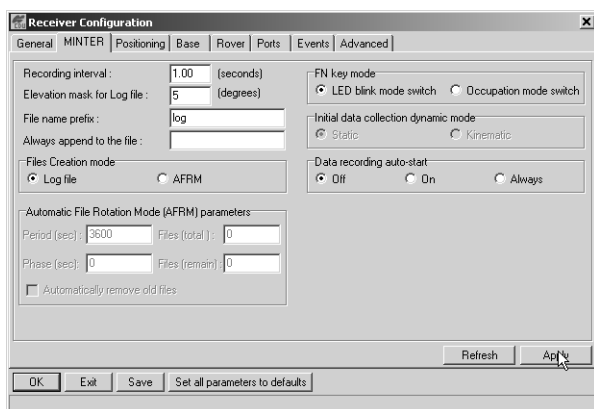

Figure 2-7. Receiver Configuration – MINTER Tab
3. Click the **MINTER** tab, configure the following settings, and click **Apply** (Figure 2-7).